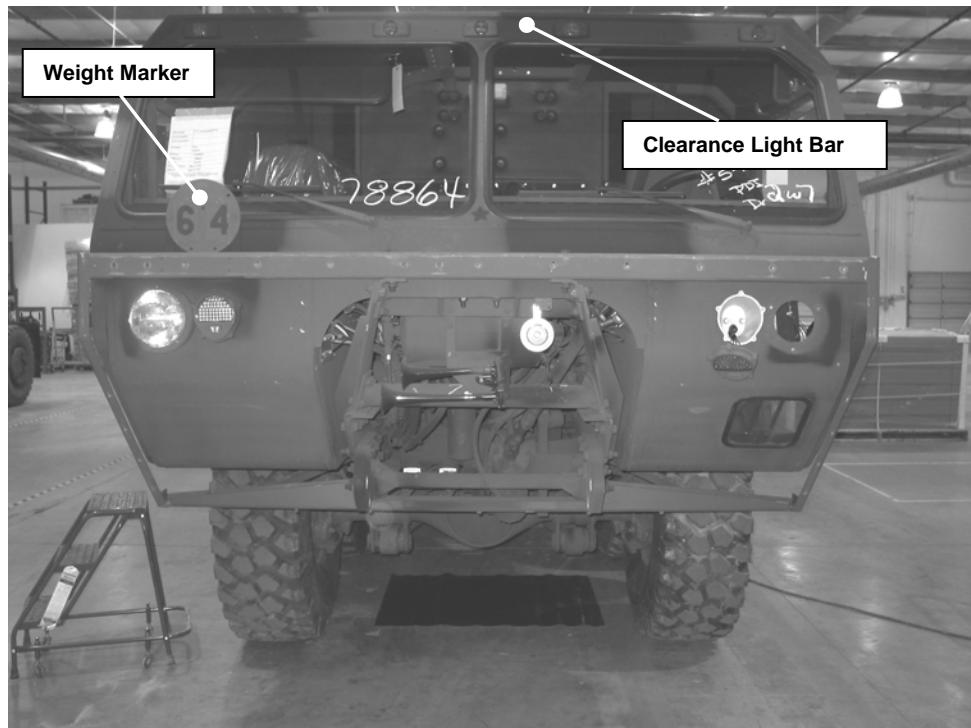

Figure 6. Vehicle with Brush Guard removed.
- j) Remove the Weight Marker (see Figure 6). This is done by removing the two bolts connecting it to the back of the Upper Brush Guard rail structure.
- k) Remove the Clearance Light Bar located on the front of the cab just under the roof line (see Figure 6 and Figure 14). From the inside of the cab, cut the Cab Top Clearance Light Bar wire lead approximately 6 in. from the exit hole. Install a closed-end wire connector on the end of the wire (inside the cab), fold the wire inward, and secure it in place with a wire tie. Remove the six screws holding the Cab Top Clearance Light Bar to the cab roof overhang at the top of the windshield, and remove the Cab Top Clearance Light Bar from the vehicle.